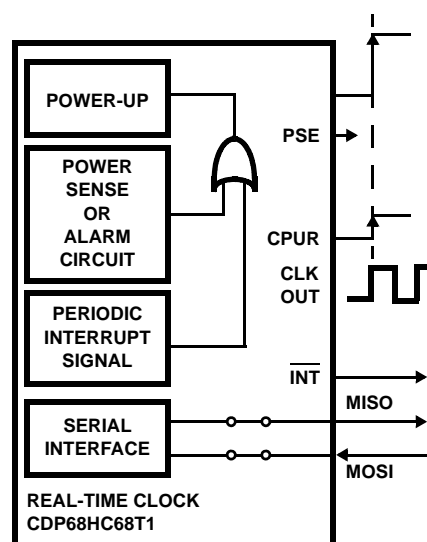

FIGURE 5. POWER-UP FUNCTIONAL DIAGRAM (INITIATED BY INTERRUPT SIGNAL)
Power-Up (See Figures 5 and 6)
1. The first condition (see Figure 5) requires an interrupt. The interrupt can be generated by the alarm circuit, the programmable periodic interrupt signal, or the power sense circuit.